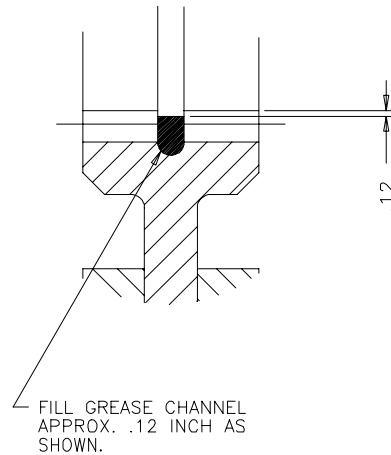

Figure 4
- 2.2.4 Apply a light coat of MOLUB-ALLOY® 412 ES grease to the gear teeth and pre fill the groove in the friction disc splines as shown on figure 4. Slide the brake assembly onto the gear.